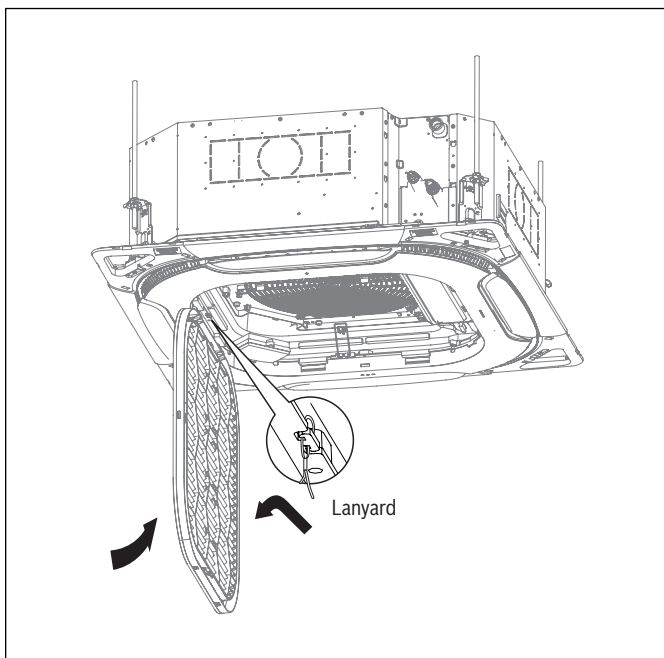

Figure 79
- a. Position the grille so the lanyard aligns with the lanyard hook on the inside of the panel (See Figure 79).